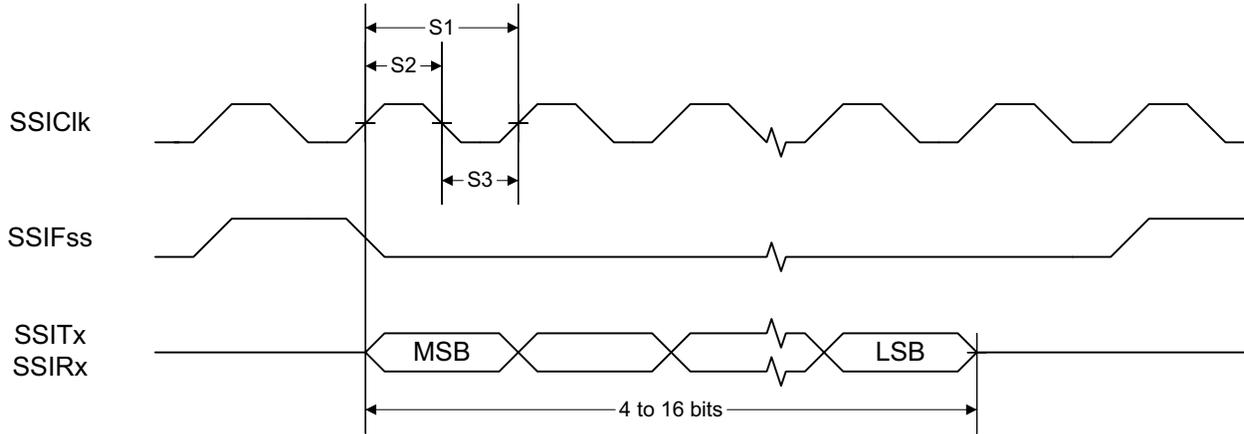

图 8-1. SSI Timing for TI Frame Format (FRF = 01), Single Transfer Timing Measurement
- (1) Refer to SSI timing diagrams 图 8-1, 图 8-2, and 图 8-3.
- (2) When using the TI-provided Power driver, the SSI system clock is always 48 MHz.